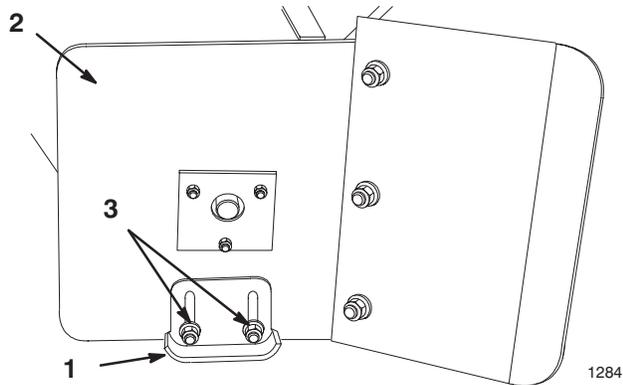

Figure 34
3. Loosen the nuts securing skids to the housing until the skids slide up and down easily (Fig. 34).
4. Raise or lower the skids equally on both sides, to obtain level scraping action, then tighten the nuts (Fig. 34).